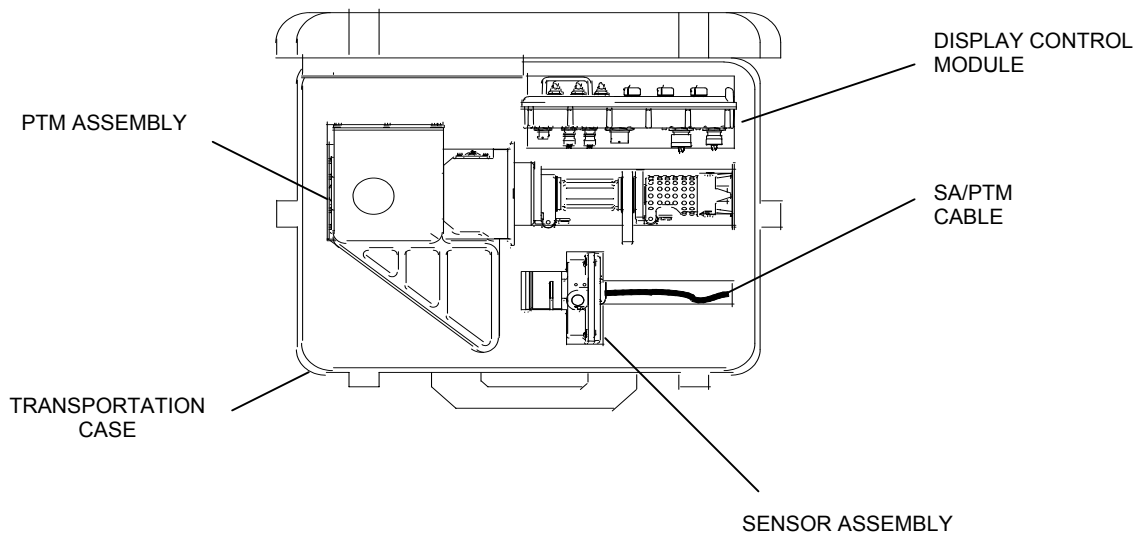

Figure 4-7. M56 DVE Storage
5. Remove PTM Assembly from transportation case (Figure 4-7).
Refer to Figure 4-7 for equipment storage.